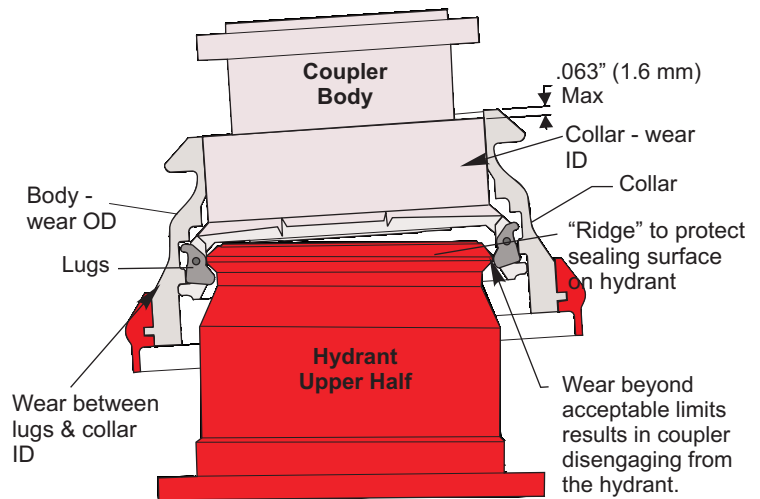

FIGURE 1 - RESULTS OF WEAR ON COUPLER/HYDRANT INTERFACE
Figure 1 (top right) shows the results of an excessively worn Coupler and how the collar shifted from the centerline and rotated around the lugs directly opposite the operating handle. The surface where the collar ID contacts the coupler body OD must be excessively worn for this to occur. This rotation results in the Collar lifting on one side (directly opposite the operating handle) .100 of an inch (2.5 mm) or more when the coupler is pressurized. When the Collar is lifted, the latching lugs become partially unsupported and the lugs start rotating toward the disengaged position. The lugs are made of 7075-T6 aluminum with an ultimate strength of 83,000 psi, and the collar is a casting made of 356-T6 aluminum with an ultimate strength of 30,000 psi. As pressure increases the lugs (being stronger) rotate and deform the internal ring in the collar until the collar is lifted to the full disengaged position and the coupler separates from the hydrant valve.
A. Install the coupler to be tested onto a non-pressurized API/IP 1584 adapter that is within allowable wear limits (see Figure 1 above). Ensure that the collar has dropped completely into the engaged position. It is not necessary or recommended to open the poppet; however, if the coupler is pressurized or is full of fuel, this should be done over a basin to catch any fuel that may spill. Opening the poppet removes the capability to rotate the parts relative to each other. This test may require the participation of two people to achieve an accurate measurement.